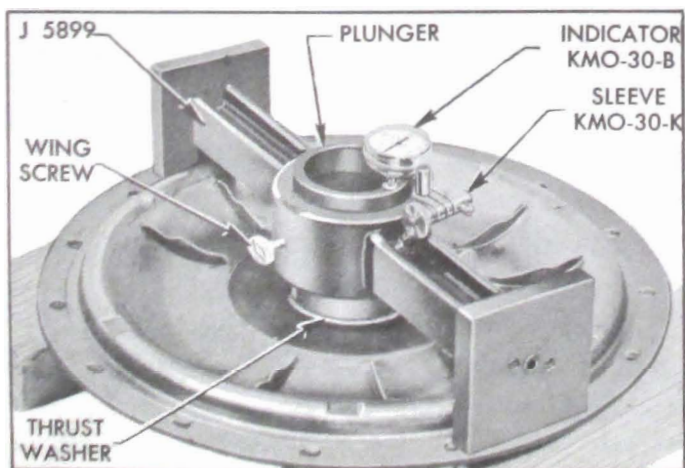

Figure 5-104—Gauge J 5899 on Pump Cover
6. Support the converter pump cover firmly on blocks with inner side up and place the bronze thrust washer in its recess. Remove Gauge J 5899 from pump, *invert it*, and center it on the cover so that it rests squarely on the gasket surface. See figure 5-104.